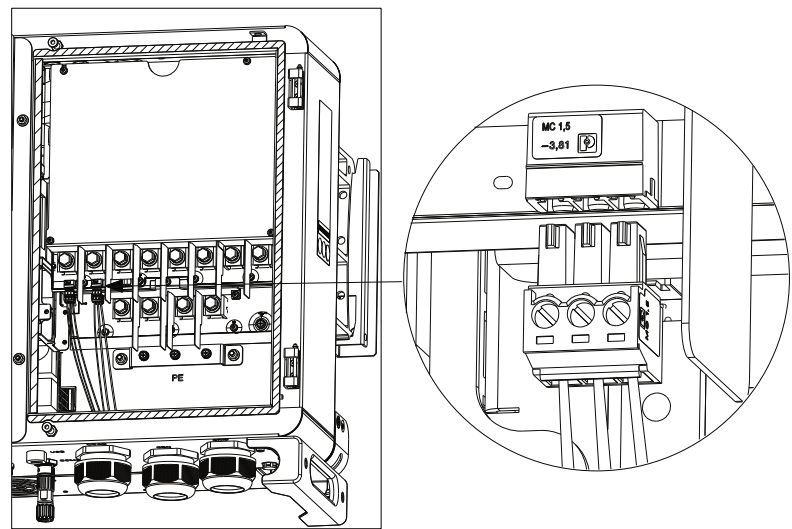

Fig 6.16 BMS-AC terminal
- 1. Open the right cover plate of the inverter, the position of which is shown in Fig6.16;